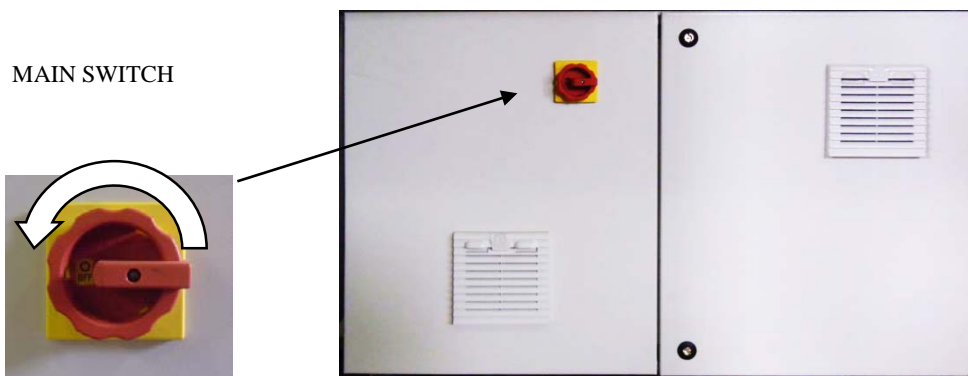

Fig. 53
- Turn off the machine by rotating the main switch located on the electrical cabinet of the machine in a counter clockwise direction (Fig. 53)